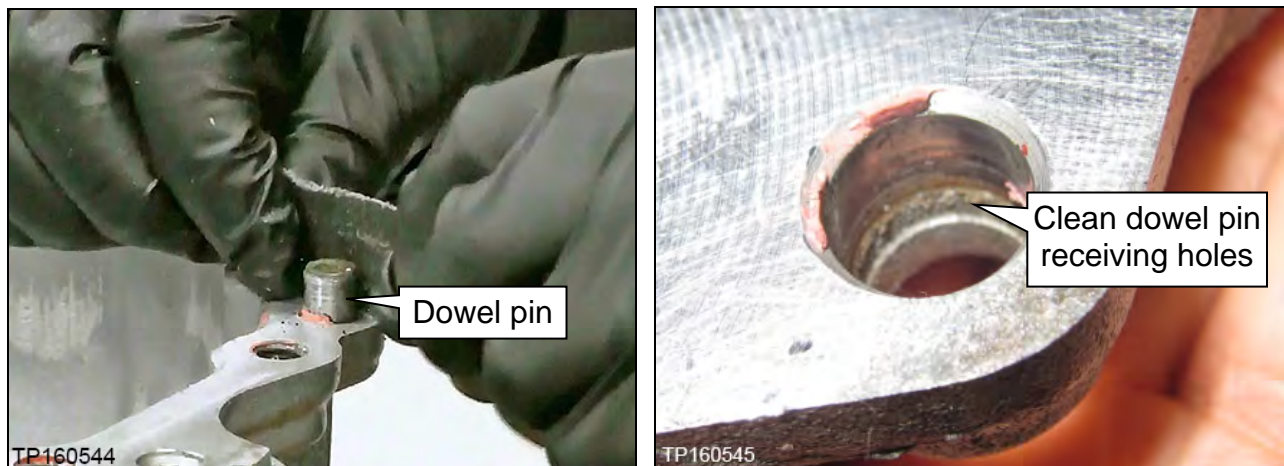

Figure 1C
- Make sure rust and debris have been cleaned off of dowel pins and receiving holes (Figure 1C).
2. Clean the dowel pins and dowel pin receiving holes of any rust or debris with emery cloth (Figure 1C).